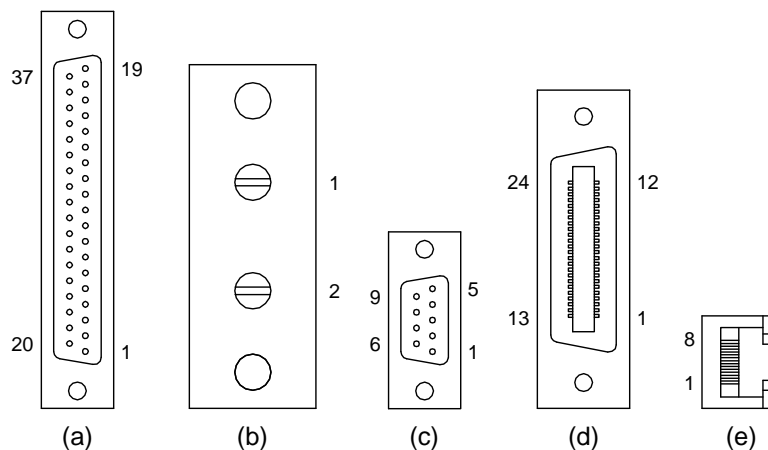

Figure 1.1 Connector (a) JS1, remote interface; (b) JS2, remote sense; (c) JS3, RS232; (d) JS4, IEEE-488; and (e) JS5, Ethernet (viewed from female end)
**User interface connectors, see figure 1.1 and Tables 1.5, 1.6, 1.7, 1.8, and 1.9 for details:**